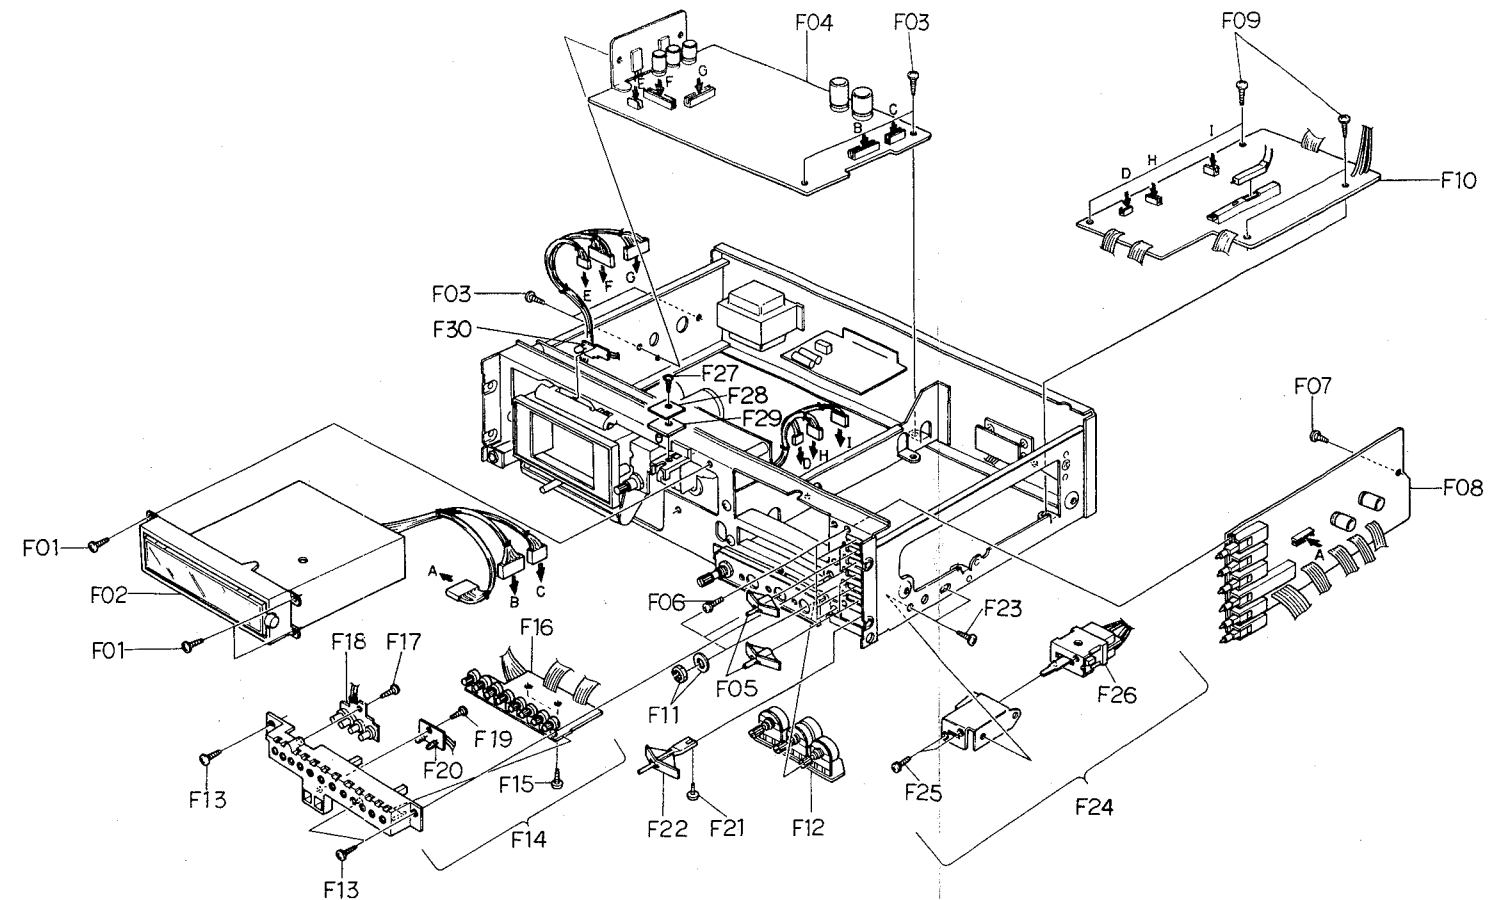

Fig. 3.3
Refer to Fig. 3.3.
- (1) Refer to Fig. 3.3. Remove FL Indicator Ass'y referring to item 3.8.
- (2) Remove F01, then disassemble F02 (Shield Cover).
- (3) Remove F03 (Indicator P.C.B. C Ass'y) by releasing the self-interlocking pin of the P.C.B. supporters.
- (4) Remove F04, then disassemble F05 (Indicator P.C.B. B Ass'y).
- (5) Remove F06 and F07, then disassemble F08 (FL Indicator Holder L), F09 (FL Indicator Holder R) and F10 (Indicator P.C.B. A Ass'y).